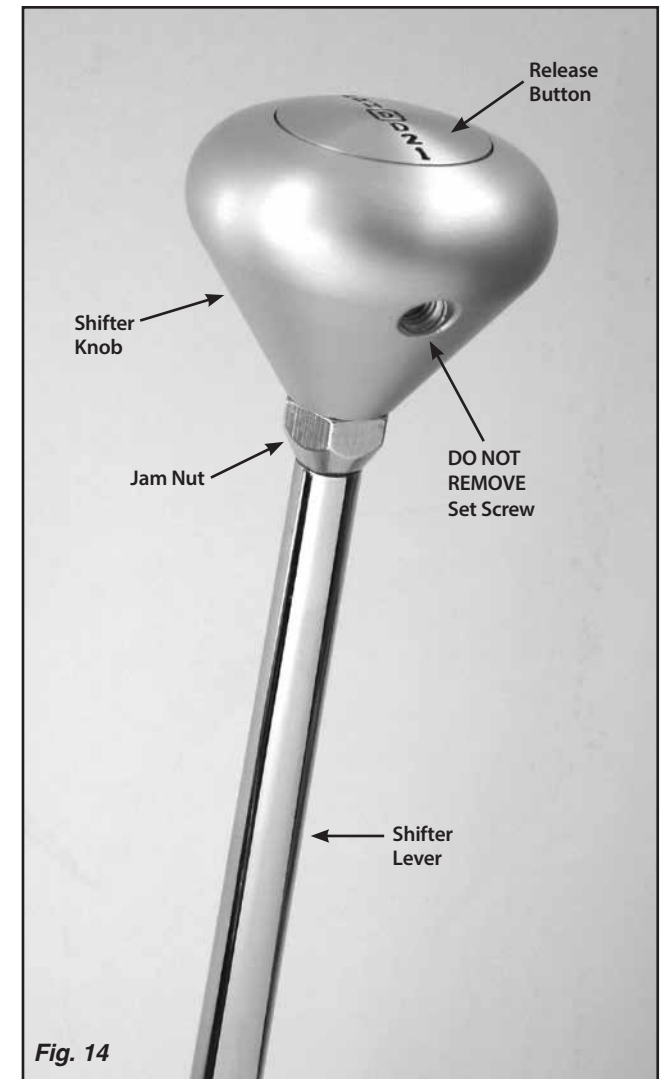

Fig. 14
Step 2: Loosen the jam nut below the shifter knob. **DO NOT** loosen or remove the set screw that is in the knob. **Fig. 14**